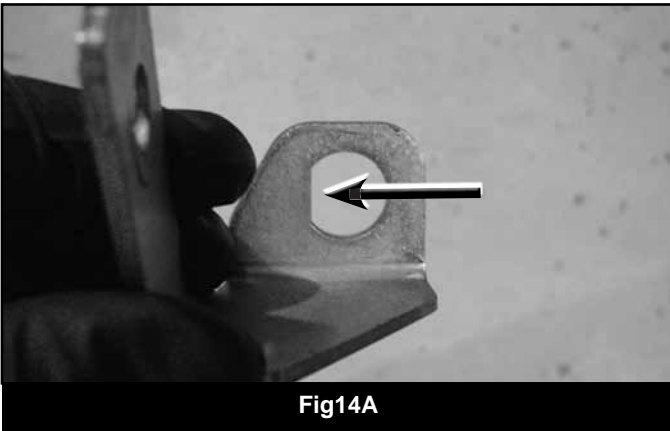
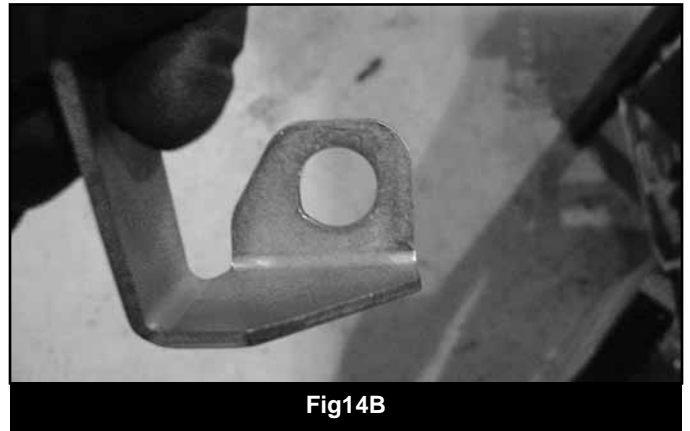
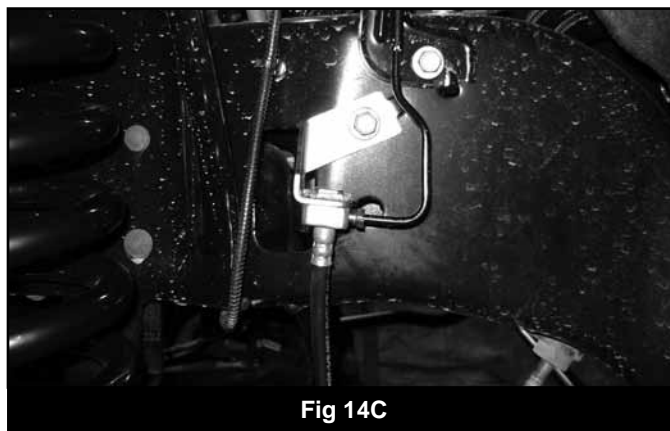

Fig14A
Fig14B
Fig 14C
40. 4" Lift Only: Remove the factory front brake line brackets from the frame. The brackets have a squared edge in the brake line mounting hole. (Fig 14A) Using a file or rotary grinder, remove the square edge to form a complete round hole. (Fig 14B) Reattach the brackets to the frame tighten securely with the factory hardware. Install the brake line junction in the bracket from the bottom and fasten with the factory retaining clip. (Fig 14C)